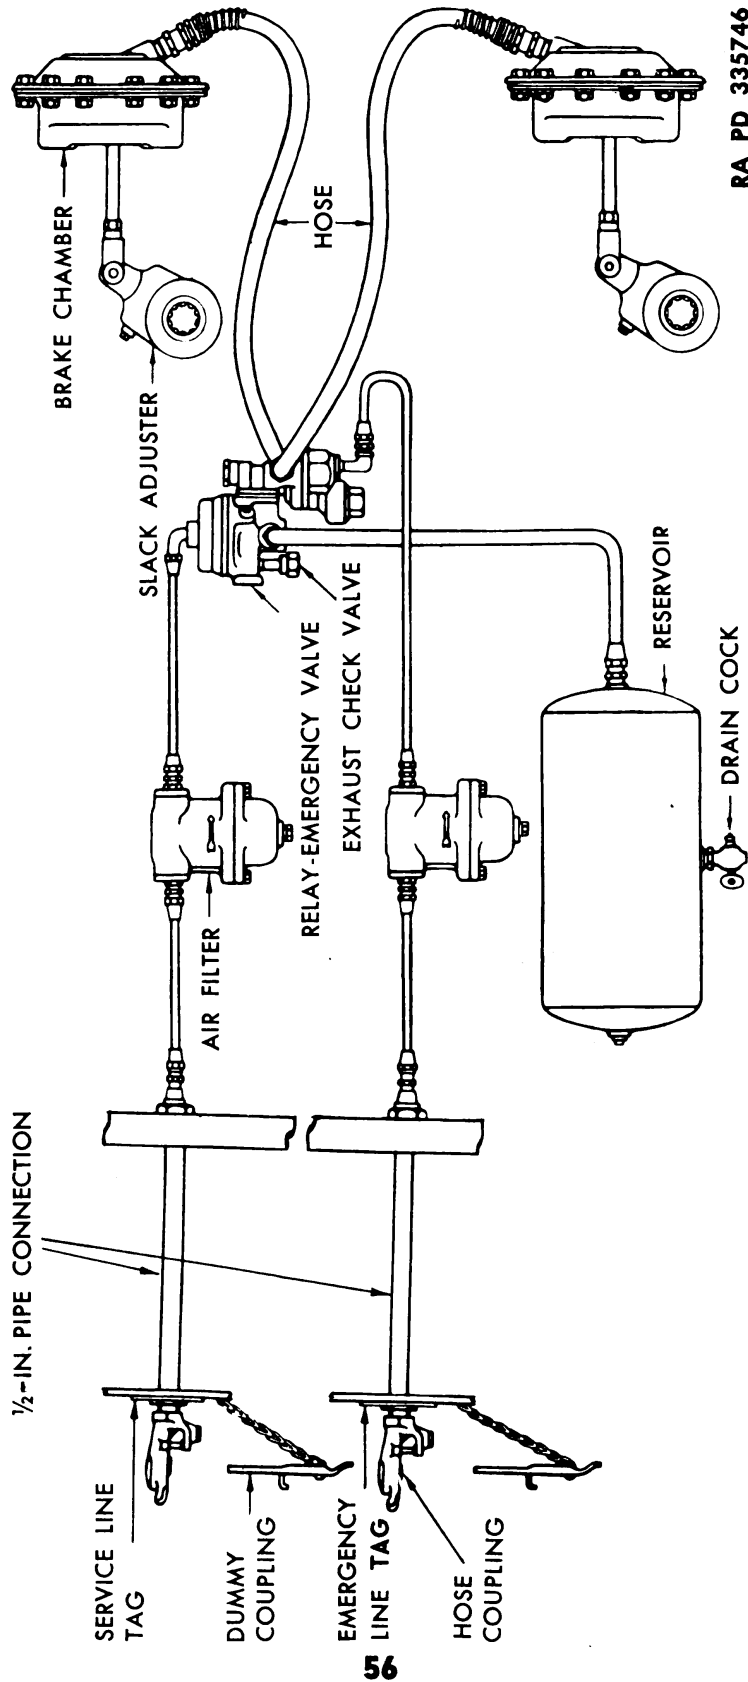

Figure 18—Air Lines Diagram
a. **General Description.** The brakes of the semitrailer are actuated and controlled by compressed air supplied by the tractor truck through two air hose lines (fig. 18) coupled to the front of the semitrailer. Once the air lines are connected, and the stop cocks on the air lines of the tractor truck are opened, the brakes of the tractor truck and semitrailer are activated and controlled as a single unit. The braking mechanism of the semitrailer is of the internal expanding mechanical type operating on each of the dual wheel brake drums.